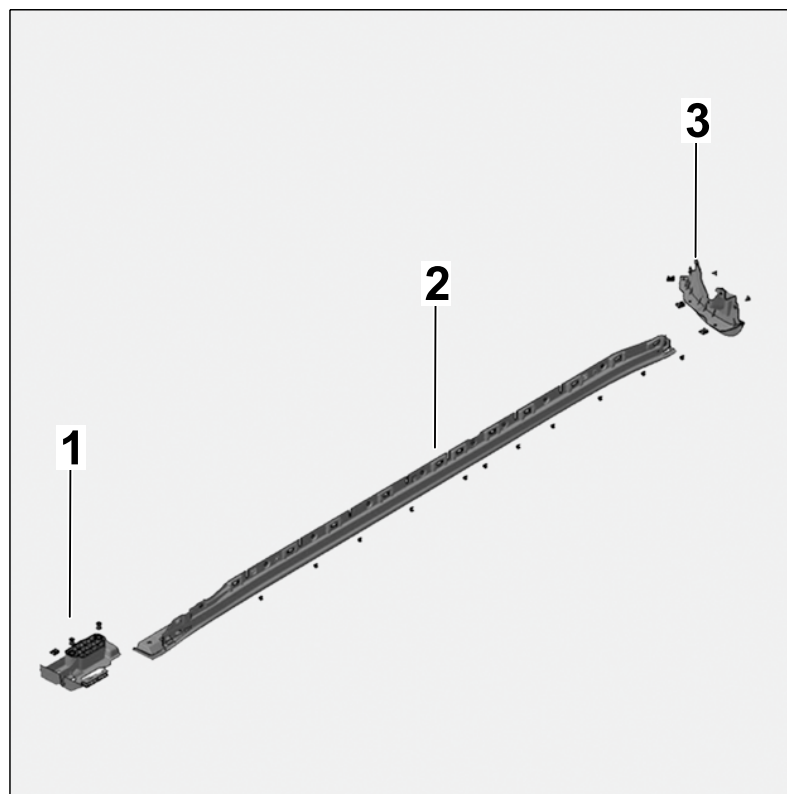

Figure 4
- 4.1 Remove and install door trim panels and wheel arch trims ⇒ *Figure 4* .